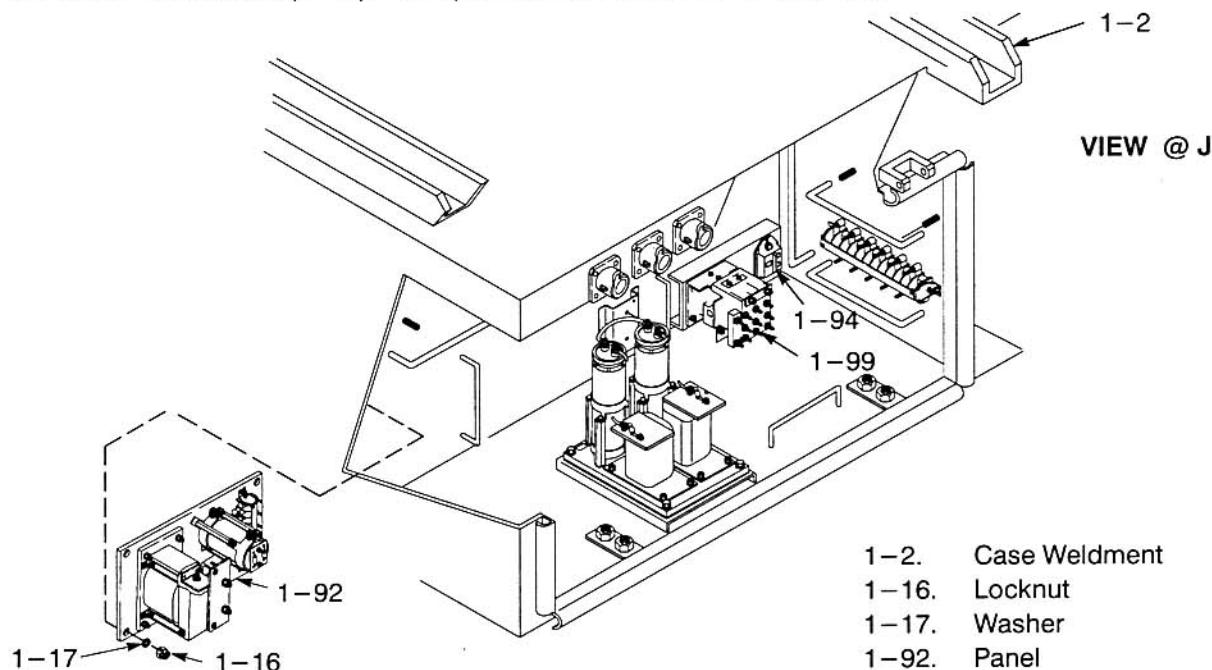

Figure 7-92 Remove/Install Battery Line Filter Panel
- Remove/install hardware (1-16, 1-17, Figure 7-92) which secures panel (1-92) to the case weldment (1-2). Torque hardware to 30–35 in. lbs.